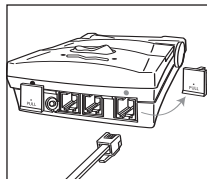

Figure 5
2. Connect the headset to the lower headset cord (it may already be attached to the amplifier) and plug it into the "PL" headset port marked with the blue dot (Figure 5).